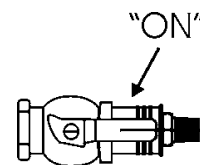

Fig. 5-17
- Turn handle to "ON" position to turn gas on. (Fig. 5-17)